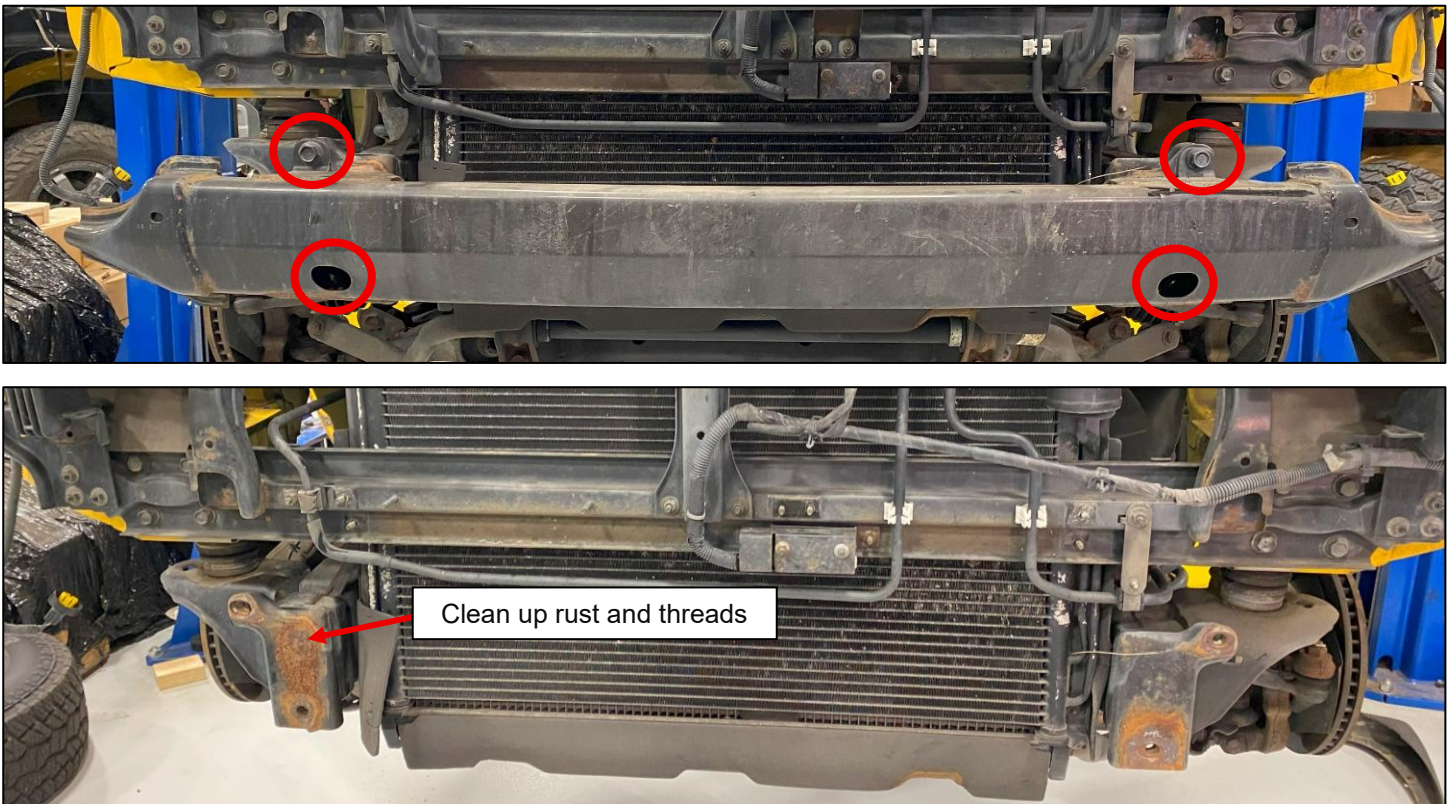

Figure 13
19. Remove the (4) four bolts securing the Front Crash Bar to the vehicle and remove the Crash Bar. *Figure 13.*